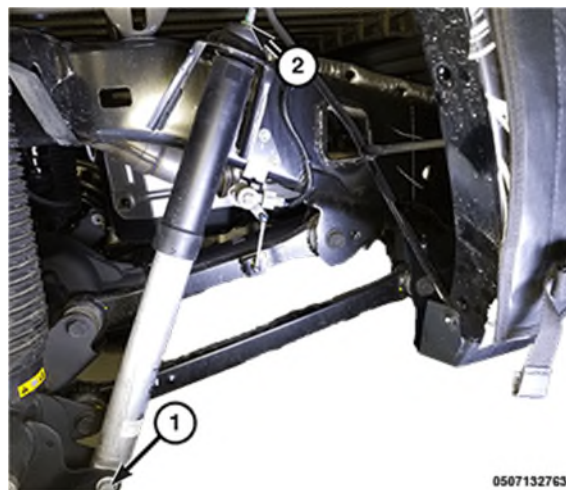

Figure 11 – Rear Shock Lower Bolt and Nut
2. Remove the shock absorber lower bolts (1) and nuts from both sides (Figure 11).
4. Align the shock absorber lower bolt hole to the axle bracket then install the shock absorber lower bolt (1) and nut but do not tighten at this time (Figure 11).